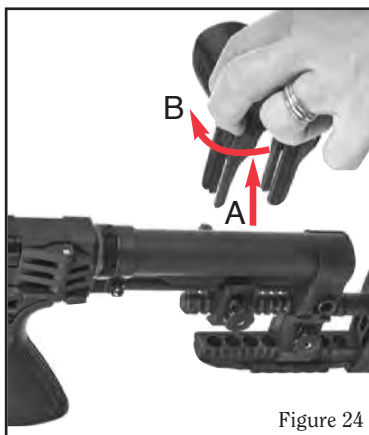

Figure 24
4. The contact portion of the cheek piece can be adjusted fore and aft by removing the cheek piece, rotating it 180°, and reinstalling it. (See Figure 24.)